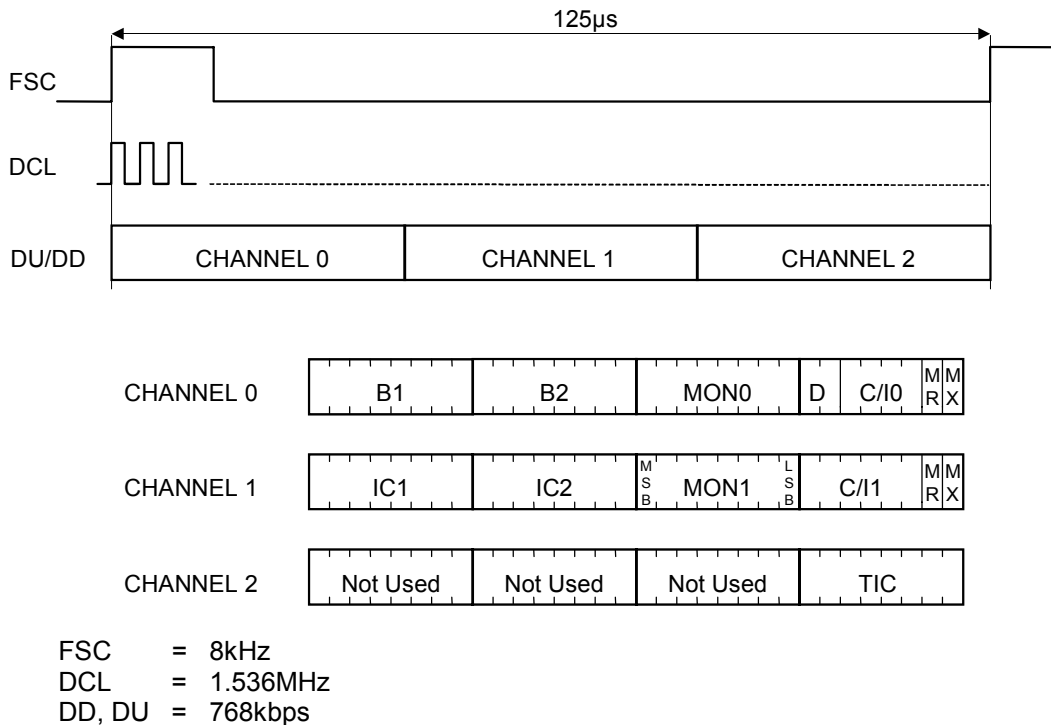

Figure 3 Terminal Mode Frame Structure
1.5.2 Terminal Mode (TE)
Terminal mode (TE) frame structure consists of 3 channels of 4 bytes each repeated at 8kHz, i.e. 96 bits in 125 μ s or a data rate of 768kbps. The Data Clock (DCL) operates at twice the data rate, i.e. 1.536MHz. Figure 3 shows the TE mode frame structure.